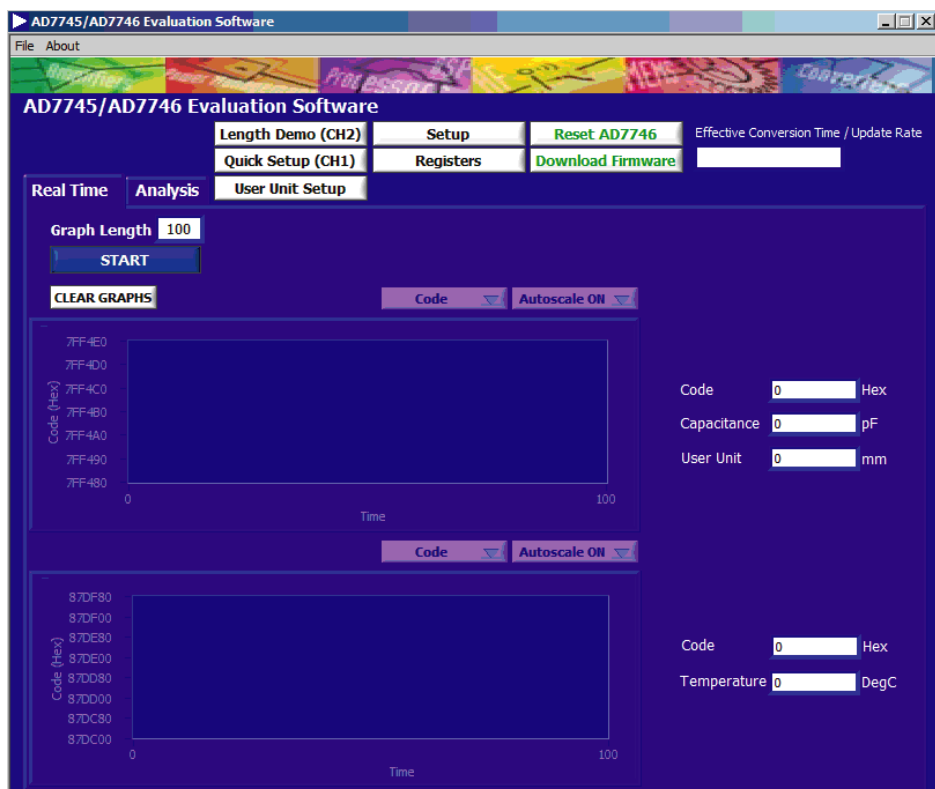

Figure 5. AD7746 Evaluation Software
1. From the Start Menu, select **Program Files > Analog Devices\AD7746 Evaluation Software**. The window shown in Figure 5 appears. The application opens by default to the Real Time tab.